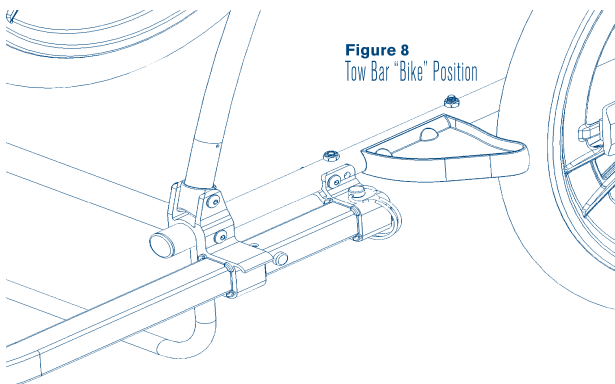

Figure 8
2. Line up **rear** tow bar hole with rear receptacle hole. Insert retaining pin through both holes and lock retaining hoop securely. **Figure 8**